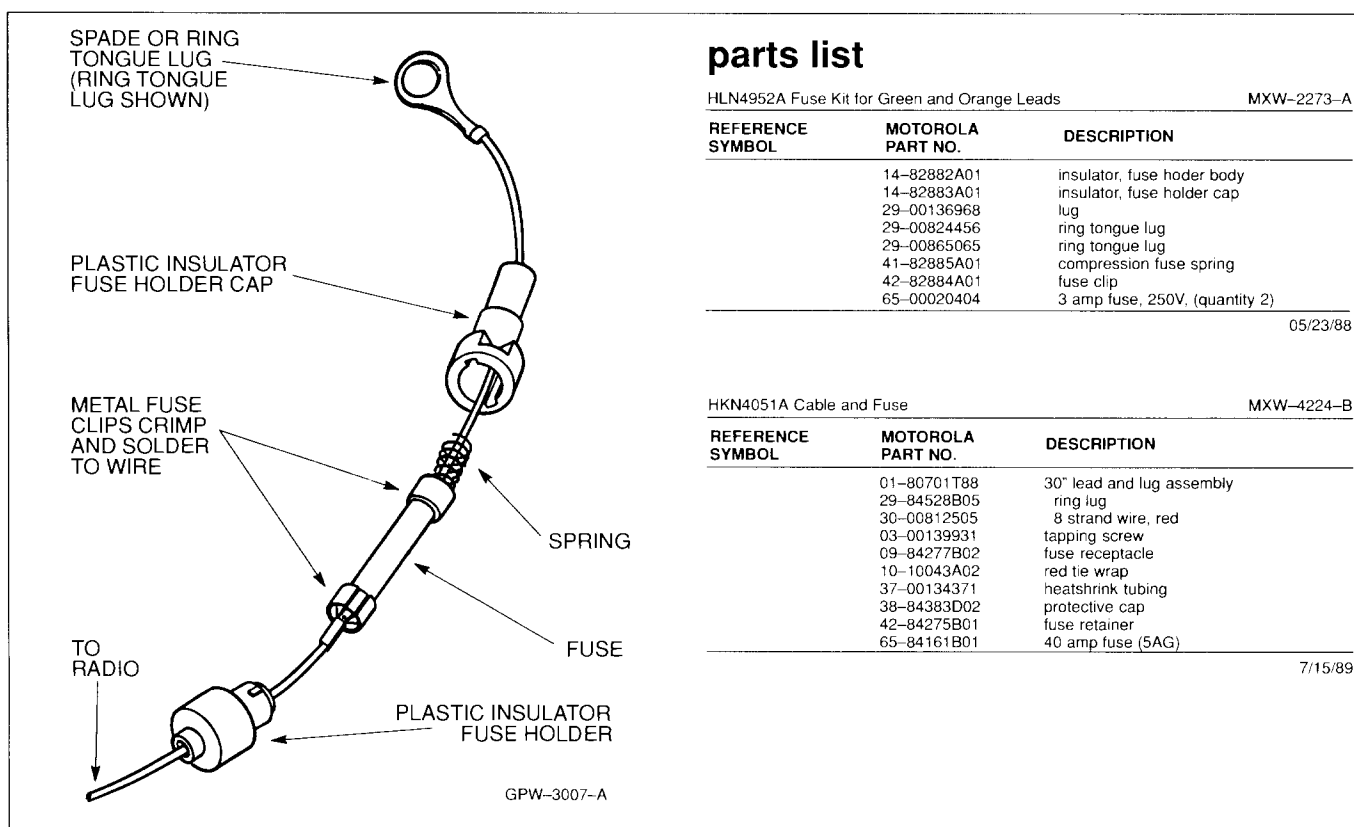

Figure 5. Fuseholder Assembly and Parts List
- (7) If either wire is to be connected in the engine compartment, pass the end of the wire through the same firewall hole that the red power cable uses. At this point, install a fuse in both wires.
- (8) The following procedures apply to both the green and orange wires. See Figure 5 for more information. Cut the wires about 10 inches from the end. Strip the insulator from both sides so that about 1/8 inch of the wire is exposed. On the end still connected to the cable kit, install the plastic insulator fuse holder cap. On the same wire, crimp one of the metal fuse clips onto the exposed wire and apply solder for a good connection. On the 10-inch loose wire, crimp another metal fuse clip onto the exposed wire and apply solder. Install the fuse (both are three-amp) into the fuse clips on both sides. Slide the spring on the wire to the fuse. Then slide the plastic insulated fuse-holder over the loose end of the wire so that the spring is inside the fuseholder. Now, twist the fuseholders until they lock together.
- (9) On the loose ends of the green and orange wires, strip the insulator and crimp either the spade or ring tongue lug on the wire. Solder the crimped connection.
- (10) Do not dress the wires at this time. Go to the next procedure.